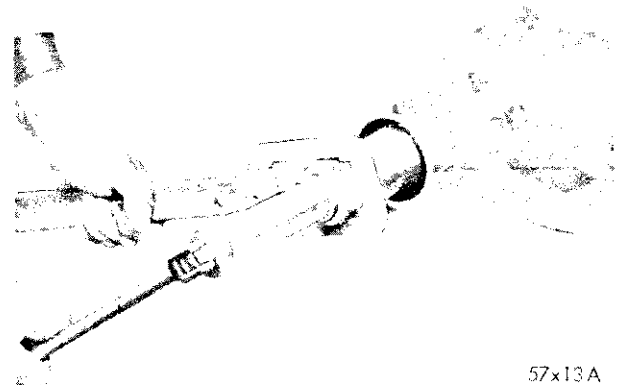
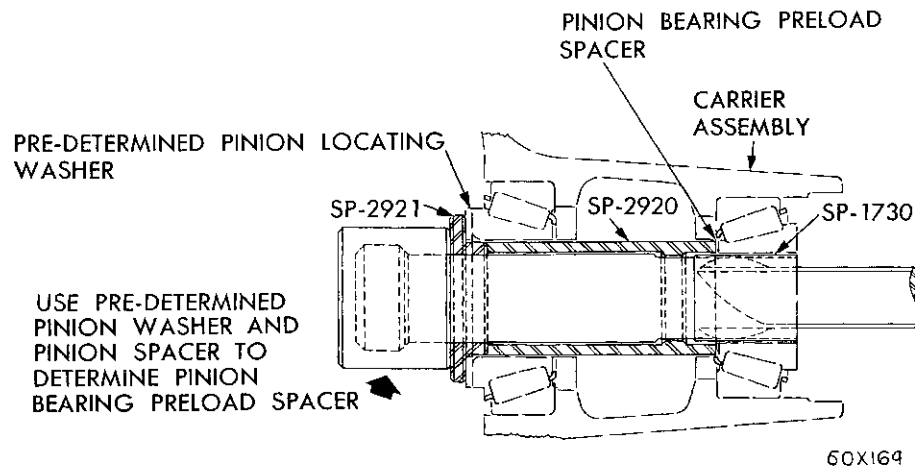

Fig. 19—Seating Bearing Cups in Carrier with Tool C-758-D3
Fig. 20—Pinion Pre-Load (Sectional View) Tool Installed
- (2) Place the front pinion bearing over the main screw followed by the compression sleeve SP-535, centralizing washer SP-534, and main screw nut SP-533. Hold the compression sleeve with the companion flange holding Tool C-3281 and tighten the nut (Fig. 19), allowing the tool to rotate as the nut is being tightened in order not to damage the bearings or cups. **Do not remove tool after installing the cups (Fig. 20).**